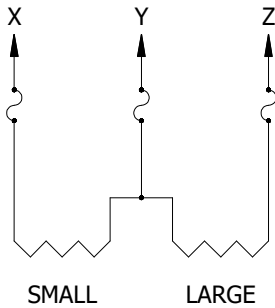

FIGURE 1
- A. REFERRING TO FIGURE 1, FIND SMALL TRANSFORMER SIZE IN COLUMN 1 OF THREE PHASE TRANSFORMER FUSE SIZING TABLES. FUSE SIZE OF PHASE "X" IS LOCATED UNDER COLUMN 2. FIND LARGE TRANSFORMER SIZE IN COLUMN 3. FUSE SIZE FOR PHASES "Y" AND "Z" IS LOCATED IN COLUMN 4.